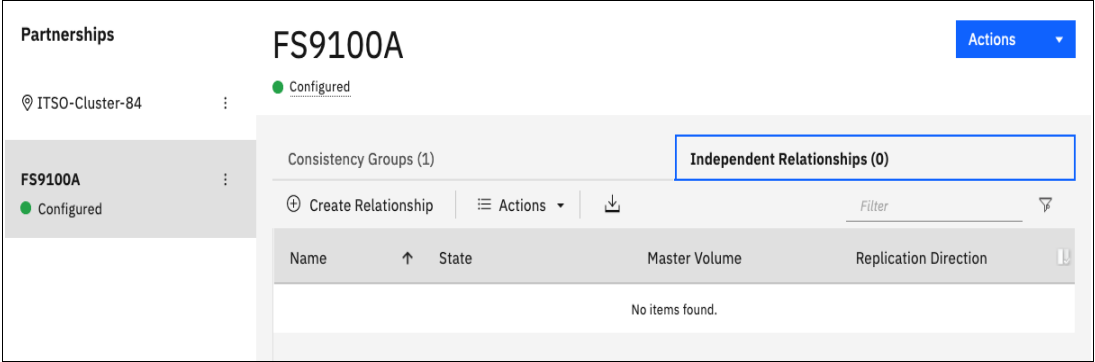

Figure 10-115 Creating Standalone Remote Copy relationships
4. If you want to add a standalone relationship, select the **Independent Relationships** tab and click **Create Relationship**, as shown in Figure 10-115.